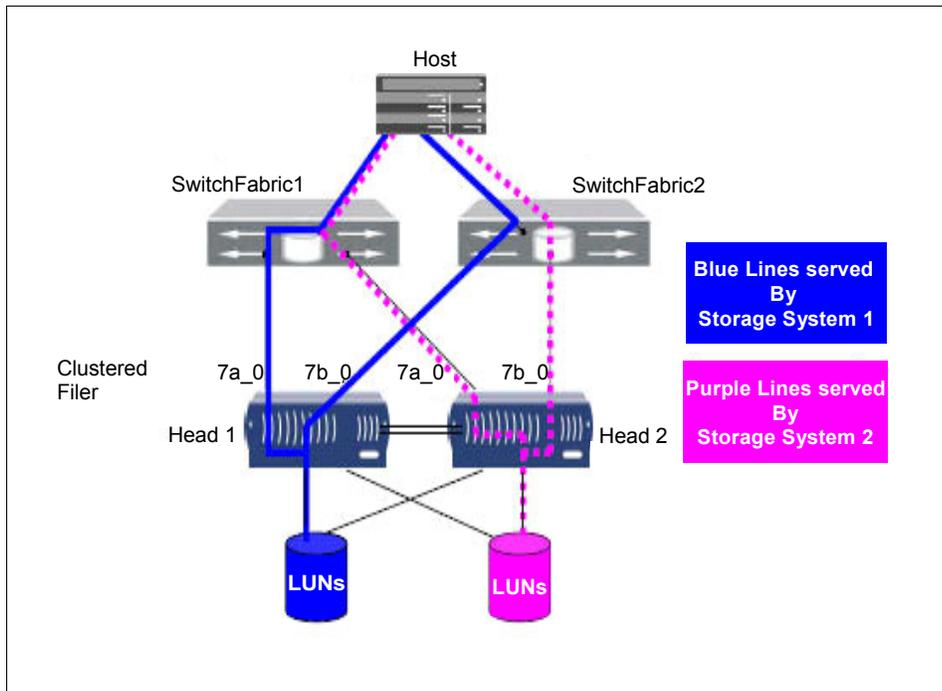

Figure 2-38 Mixed mode path access
- Each N series serves its own LUNs on its A ports (Figure 2-38 on page 113).
Figure 2-38 illustrates mixed mode path access.